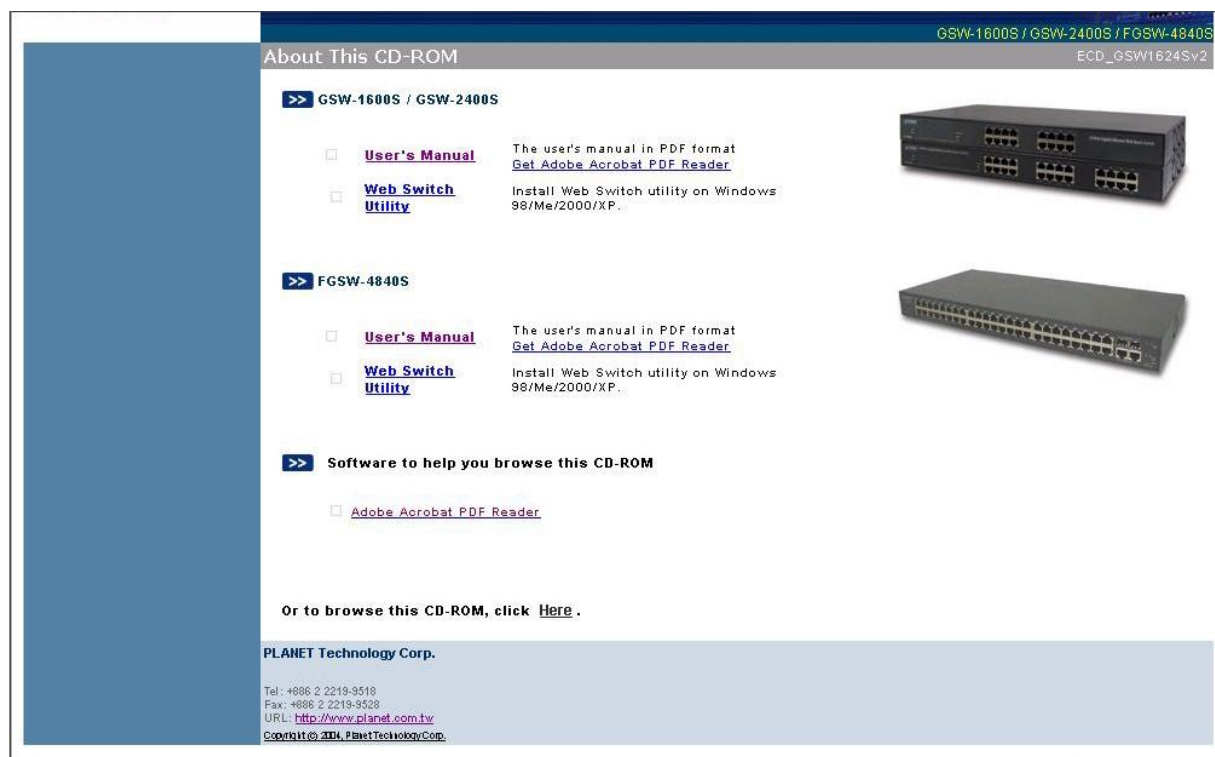

Figure 3-1 Web Switch Utility location
2. The CD-ROM drives to initiate auto run program. Once, completed. The screen in **Figure 3-1** appears.